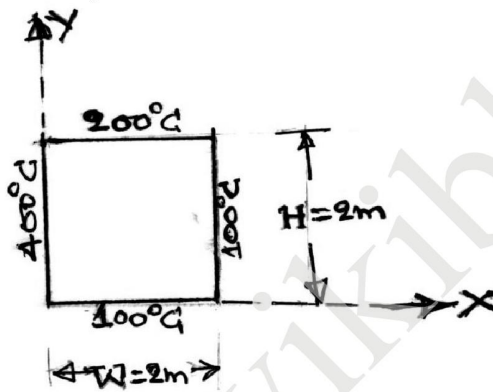

Fig.Q5(b)
- b. The boundary temperatures of a thin plate are as shown in Fig.Q5(b). Determine the temperature at the centre of the plate.